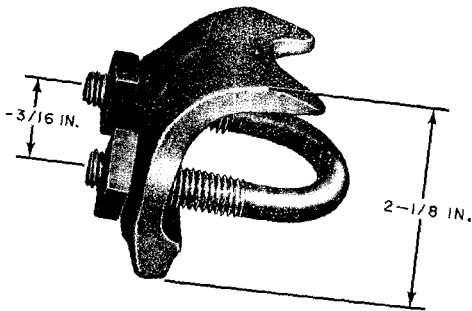

Fig. 14—C Beam Clamp
3.09 C Beam Clamp (Fig. 14): Used for intermediate attachments of strand to the flange of a structural steel member.